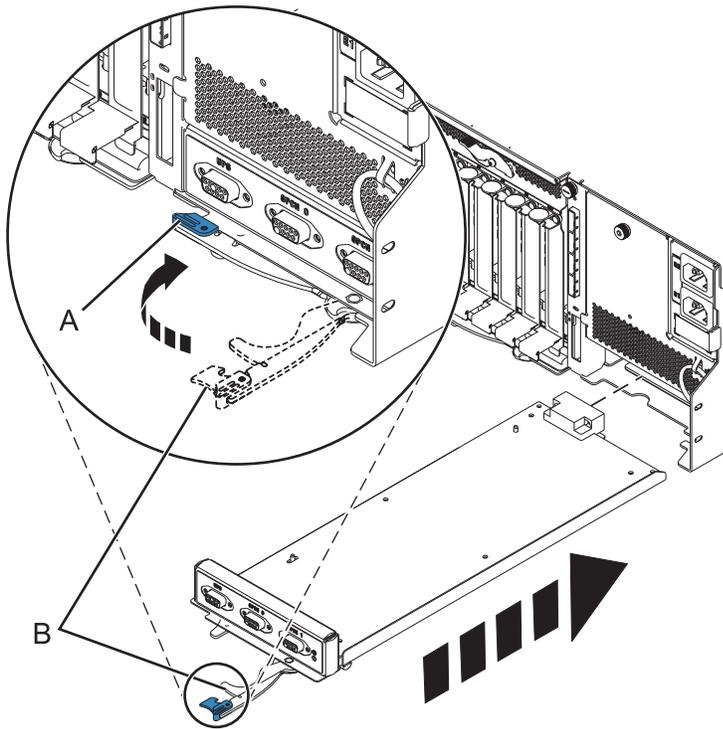

Figure 73. Replacing the enclosure management controller
- Carefully slide the enclosure management controller into the system and close the latch (A) as shown in Figure 73.